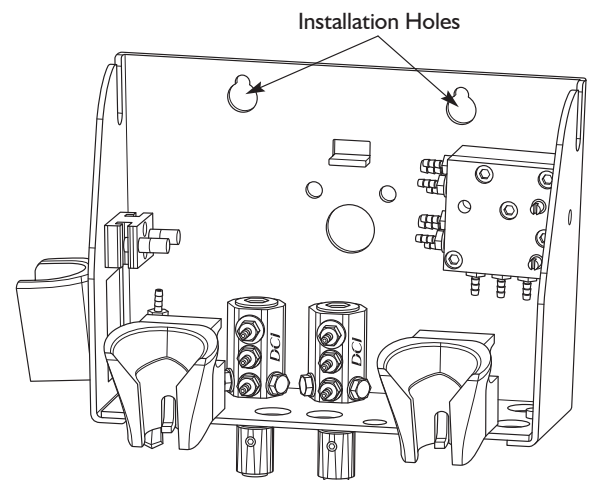

FIGURE 2
- 2. Chassis:** Install unit chassis to wall using the two outside holes provided in the back of the chassis on a surface that will support the weight of the unit using appropriate fasteners for the material the unit is being mounted to. See Figure 2.